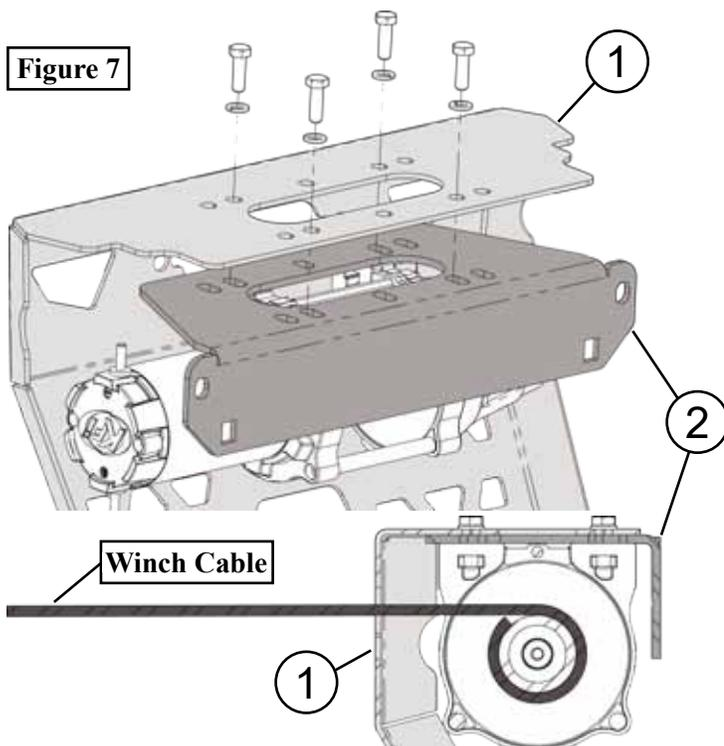

Figure 7
3. Place top flange of the fairlead bumper (Item 1) on top of winch mount (Item 2) as shown in **Figure 7**. Line up bottom holes in the fairlead bumper (1) to the holes found on the bottom of the machine. Loosely install bolts (4.1) and nuts (4.2) making sure the nut is on the top side. Do not tighten yet. See **Figure 3**.
7. Loosely attach the winch upside down to winch mount and fairlead bumper using the hardware supplied with the winch. Make sure the cable is spooling off the winch between the spool and the winch mount, as shown in **Figure 7**.